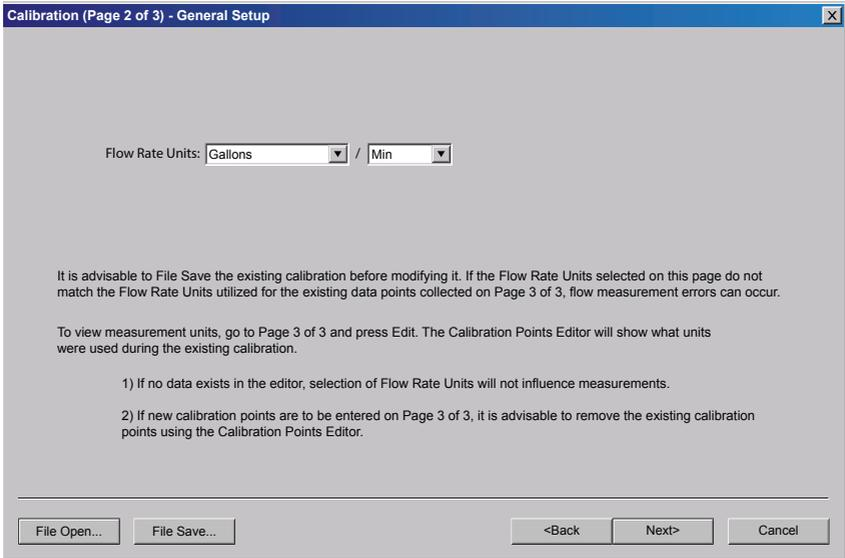

Fig. 49 Calibration page 2 of 3
Step 3 - (Page 3 of 3) as shown in Figure 49 allows multiple actual flowrates to be recorded by the UTM10. To calibrate a point, establish a stable, known flowrate (verified by a real-time primary flow instrument), enter the actual flowrate in the cell as shown in Figure 49 and click the Set button. Repeat for as many points as desired.